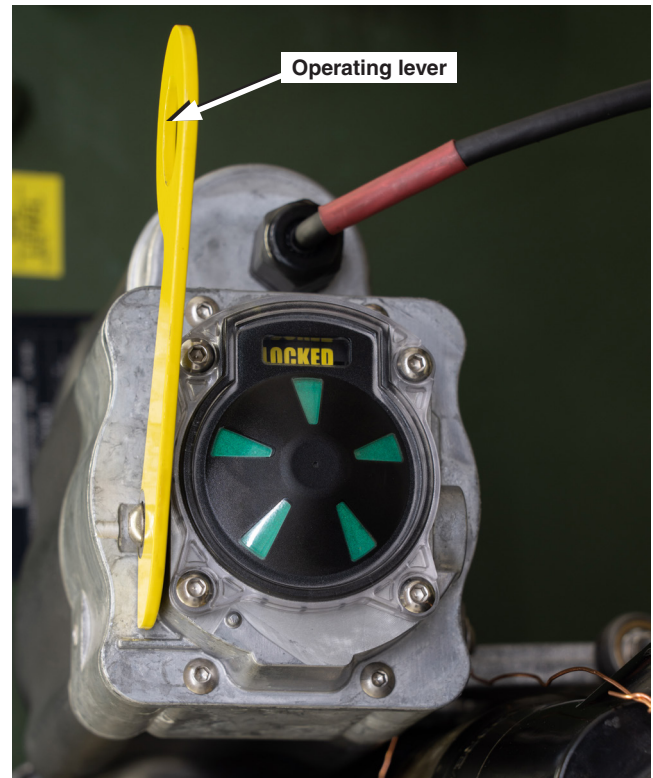

Figure 19. Toggle the yellow operating lever away from the transformer to the Open and Locked position. Automatic operation is disabled.
- STEP 2.** With a shotgun-style hotstick, a hotstick fitted with a distribution prong, or a gloved hand, pull the yellow operating lever of the bushing well interrupter that is in the **Open and Ready** (green) position away from the transformer once. The bushing well interrupter will still show a green position indicator but the system state will show “Locked.” See Figure 19. When a bushing well interrupter is in the **Open and Locked** position, the automatic restoration system is disabled.